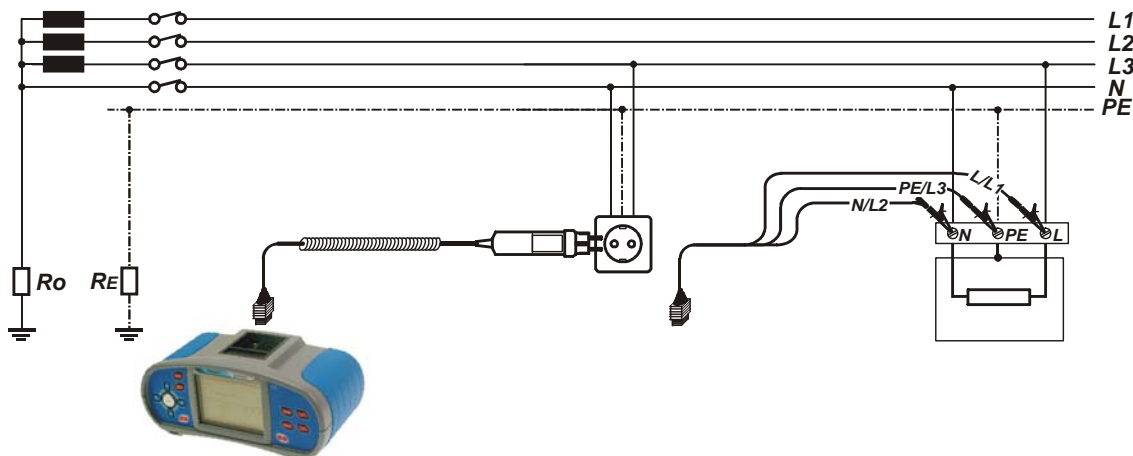

Figure G.9: Connection of plug cable and universal test cable
- ❑ **Connect** test leads to the tested object (see *figure G.9*).